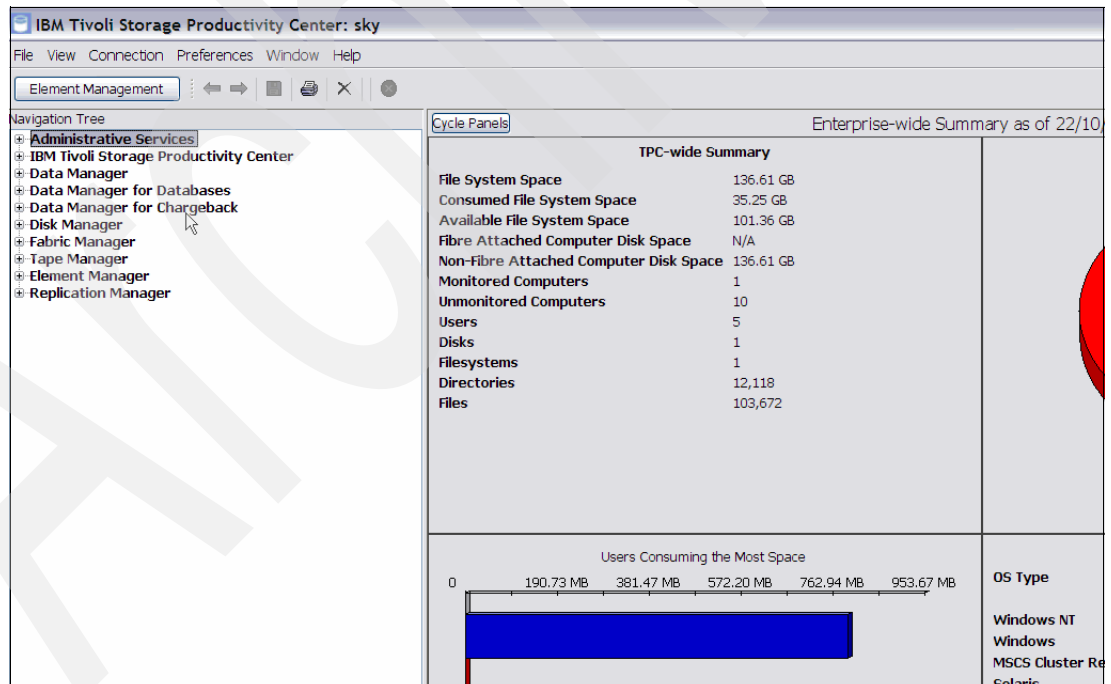

Figure 13-4 SSPC: Launch Element Manager
3. In the Tivoli Storage Productivity Center window shown in Figure 13-4, click **Element Management** (above the Navigation Tree) to launch the Element Manager.